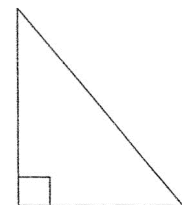

Figure 9
- a) A **right-angled** triangle has one of its angles set at  $90^\circ$ . Figure 9 is a right-angled triangle, its longest side, called the hypotenuse, is always opposite the right angle.